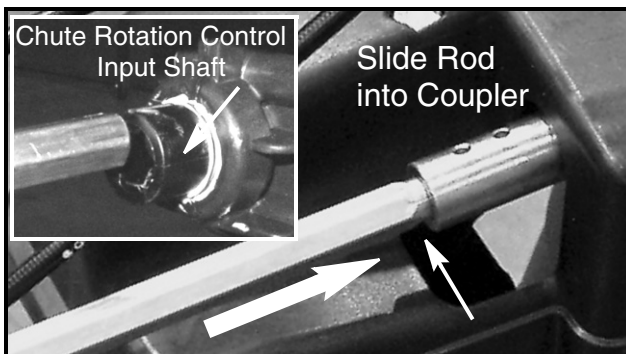

FIGURE 5
7. Carefully slide the 3/8" hex rod into the metal coupler of the chute rotation gear box to free the rod from the chute control assembly input shaft. See Figure 5.